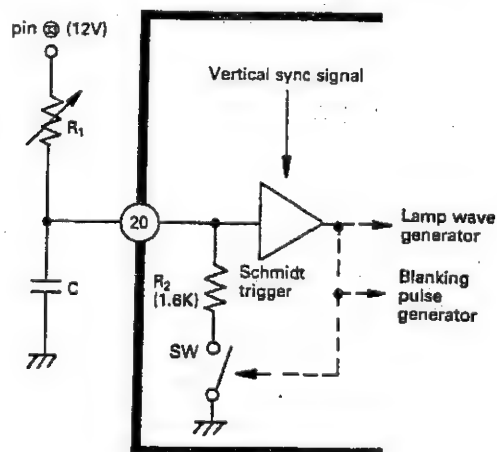
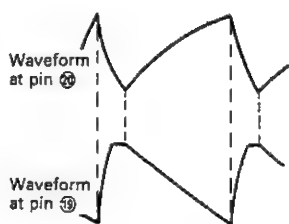

Figure 26-1.
Figure 27-2.
The vertical oscillator circuit consists of a time constant circuit (R_1 and C in connection with ②), Schmidt trigger circuit as well as R_2 and switch SW (see Fig. 26-1).
The constant voltage circuit in the lamp wave generator circuit is turned on when the vertical oscillation is at its rising edge (with the switch SW turned on: see Fig. 26-1), so that the capacitor in connection with pin ⑮ is instantly charge up. And a current then available at pin ⑮ is applied to pin ⑱; the amperage of this current is decided by the resistor connected to pin ⑱. So that the lamp waveform signal as shown in Fig. 27-2 is generated and sent to the vertical output circuit.